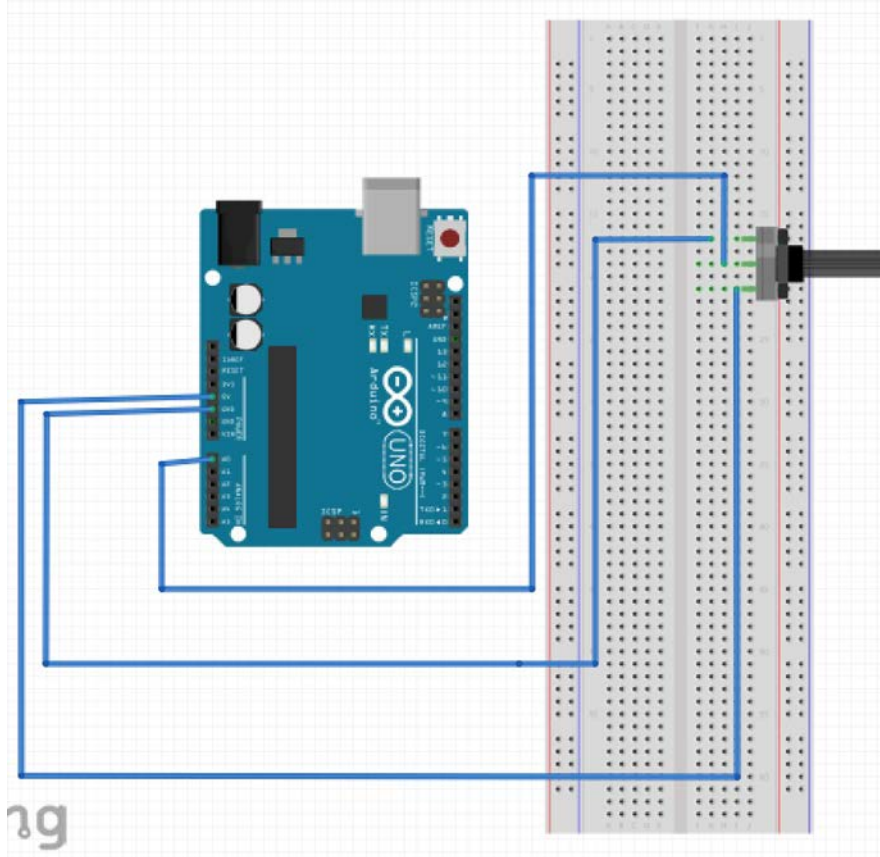

Figure 1: Breadboard representation of activity 4.c.
1. First, let's take the components we need and put all together following the schematic on figures 1 and 2².